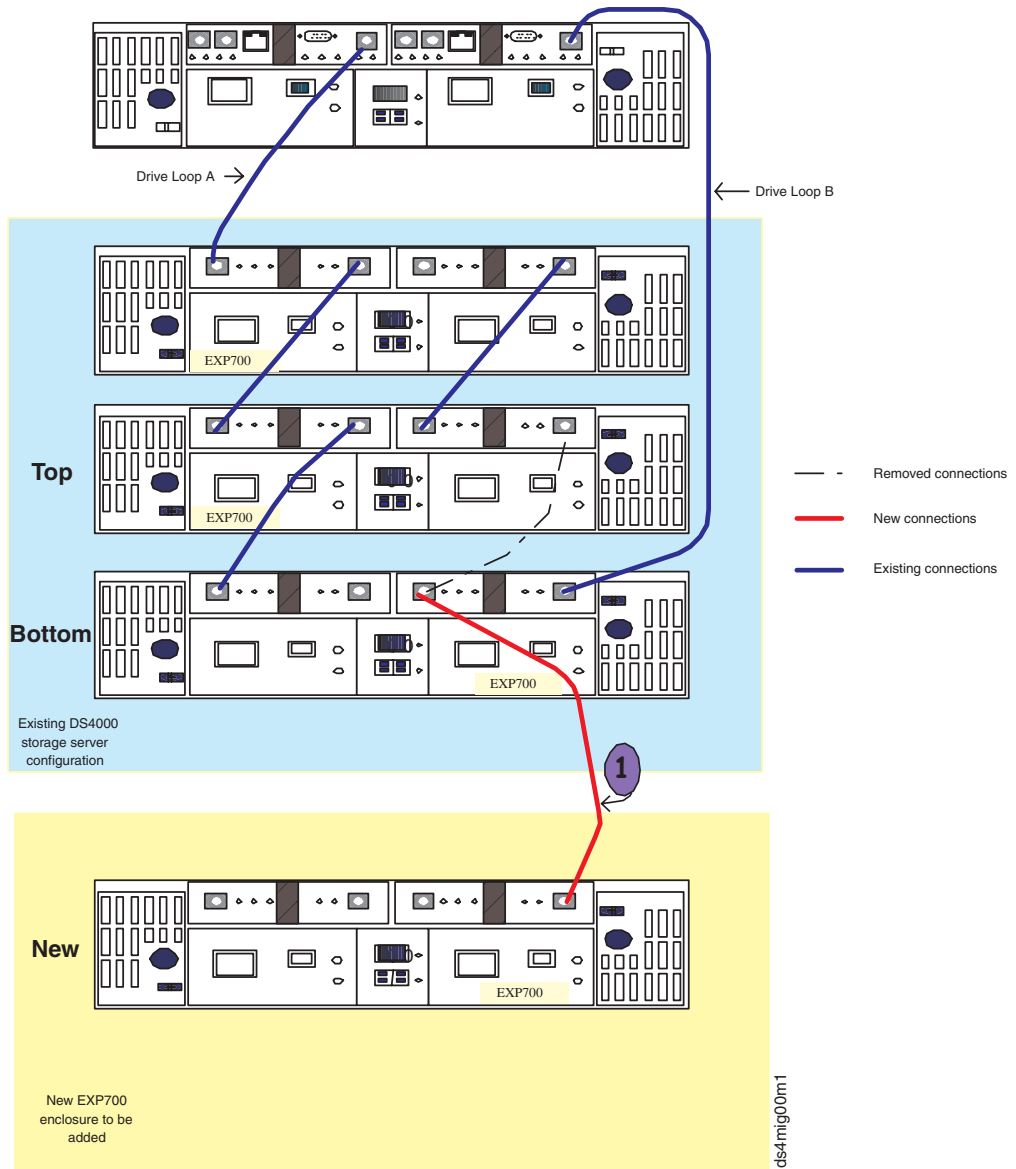
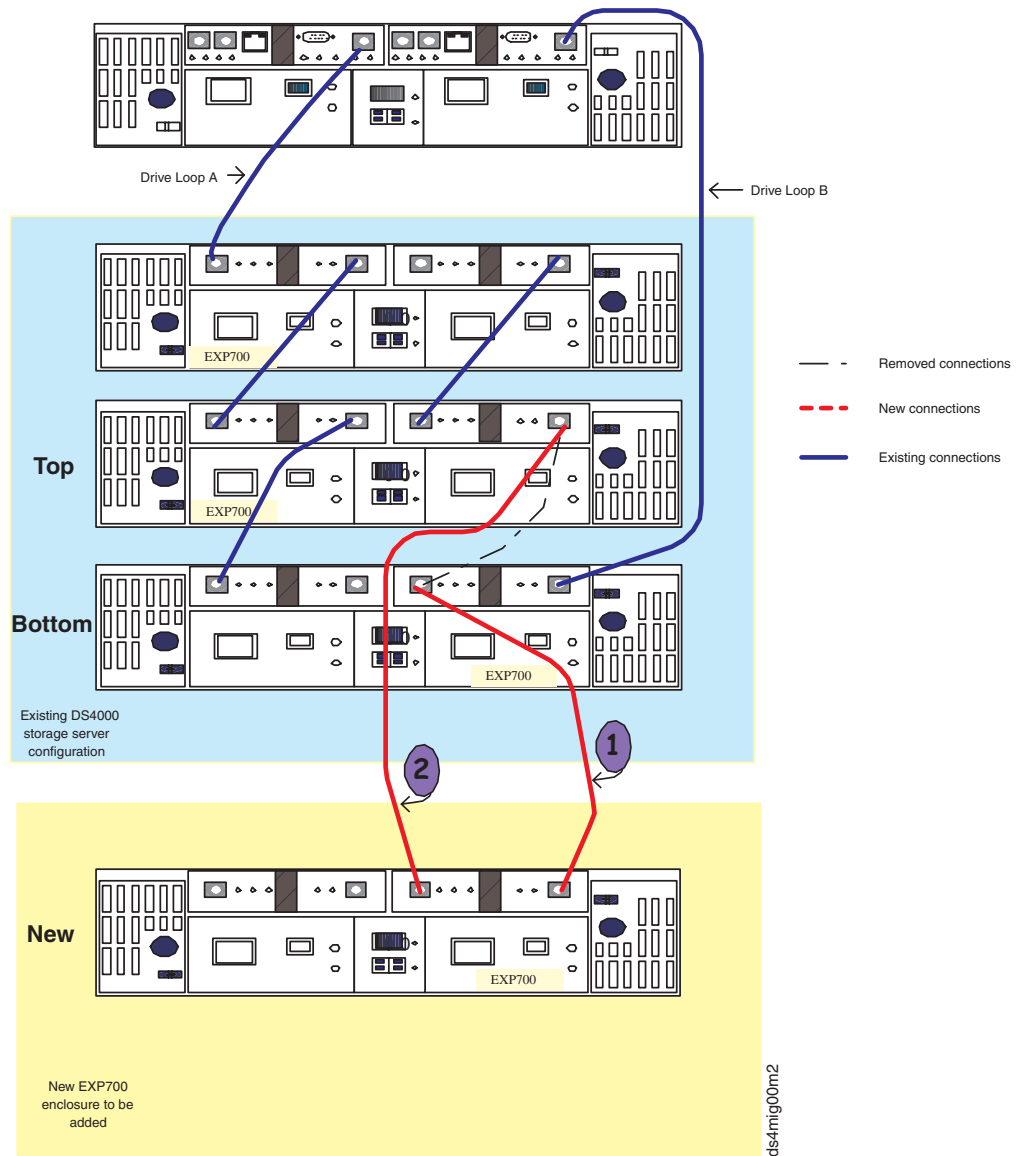
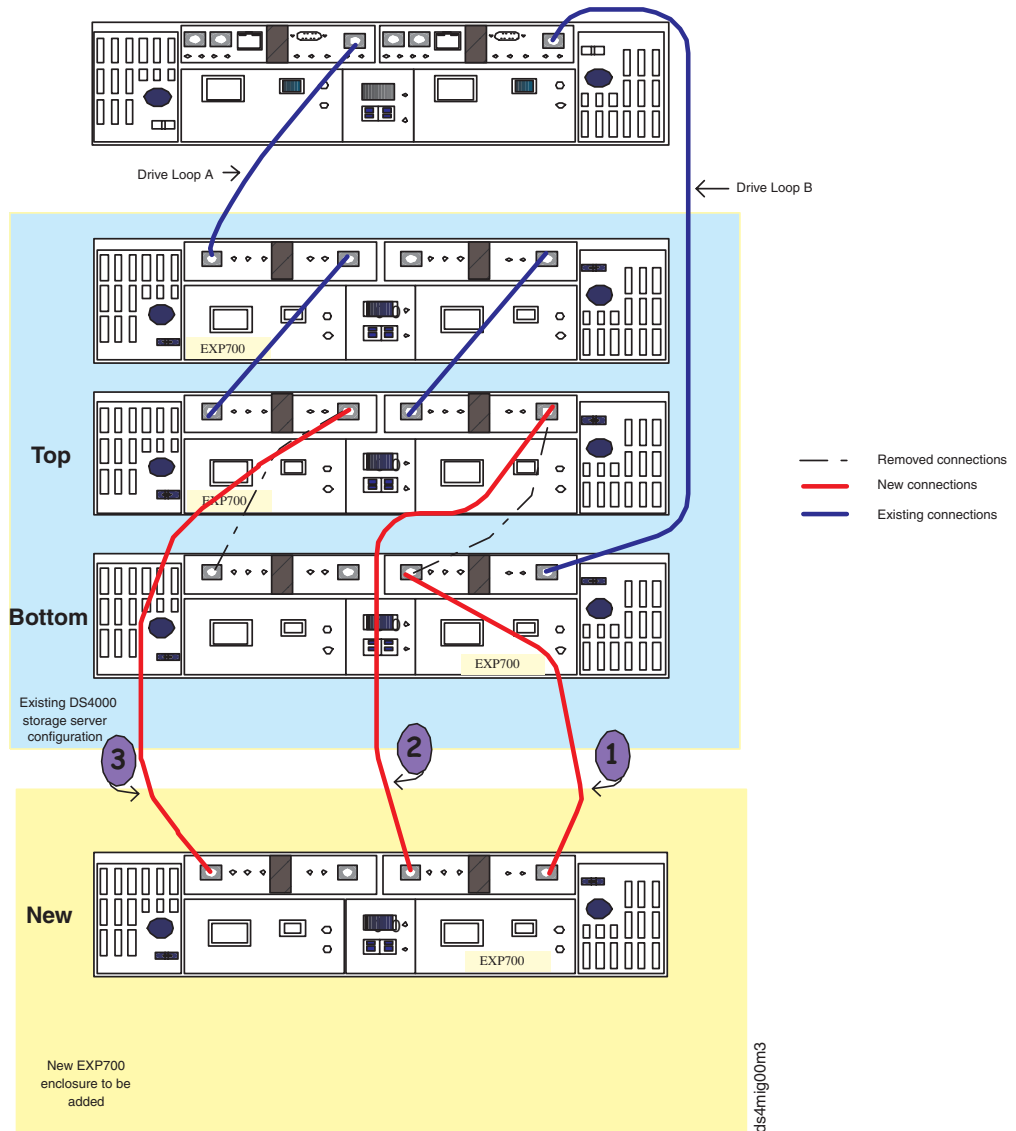
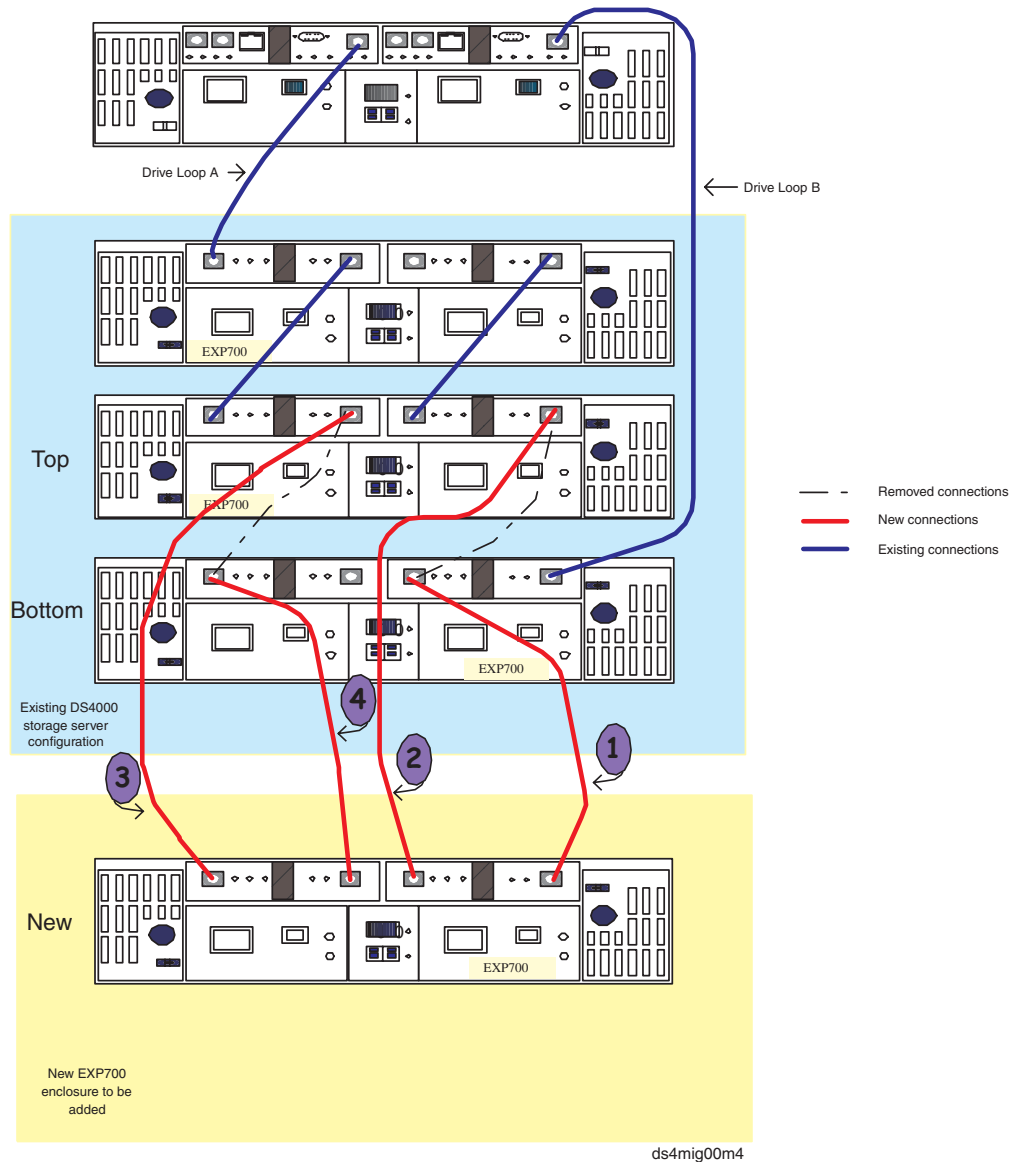

Figure 28. Connect the bottom EXP700 enclosure to the OUT port of the right ESM in the new EXP700 enclosure
Figure 29. Connect the new EXP700 enclosure to the OUT port of the right ESM in the top EXP700 enclosure
Figure 30. Connect the top EXP700 enclosure to the IN port of the left ESM in the new EXP700 enclosure
Figure 31. Connect the new EXP700 enclosure to the IN port of the left ESM in the bottom EXP700 enclosure
The cabling instructions illustrated in Figure 28 on page 88, Figure 29 on page 89, Figure 30 on page 90, and Figure 31 on page 91, describe cabling a DS4000 EXP700 Storage Expansion Enclosure to the middle of a redundant drive loop of a
- ___ Step 2. Connect the IN port of the right ESM in the bottom EXP700 enclosure to the OUT port of the right ESM in the new EXP700 enclosure, rather than to the OUT port of the right ESM in the top EXP700 enclosure. See Figure 28 on page 88.
- ___ Step 3. Connect the IN port of the right ESM in the new EXP700 enclosure to the OUT port of the right ESM in the top EXP700 enclosure. See Figure 29 on page 89.
- ___ Step 6. Connect the OUT port of the left ESM in the top EXP700 enclosure to the IN port of the left ESM in the new EXP700 enclosure, rather than to the IN port of the left ESM in the bottom EXP700 enclosure. See Figure 30 on page 90.
- ___ Step 7. Connect the OUT port of the left ESM in the new EXP700 enclosure to the IN port of the left ESM in the bottom EXP700 enclosure. See Figure 31 on page 91.